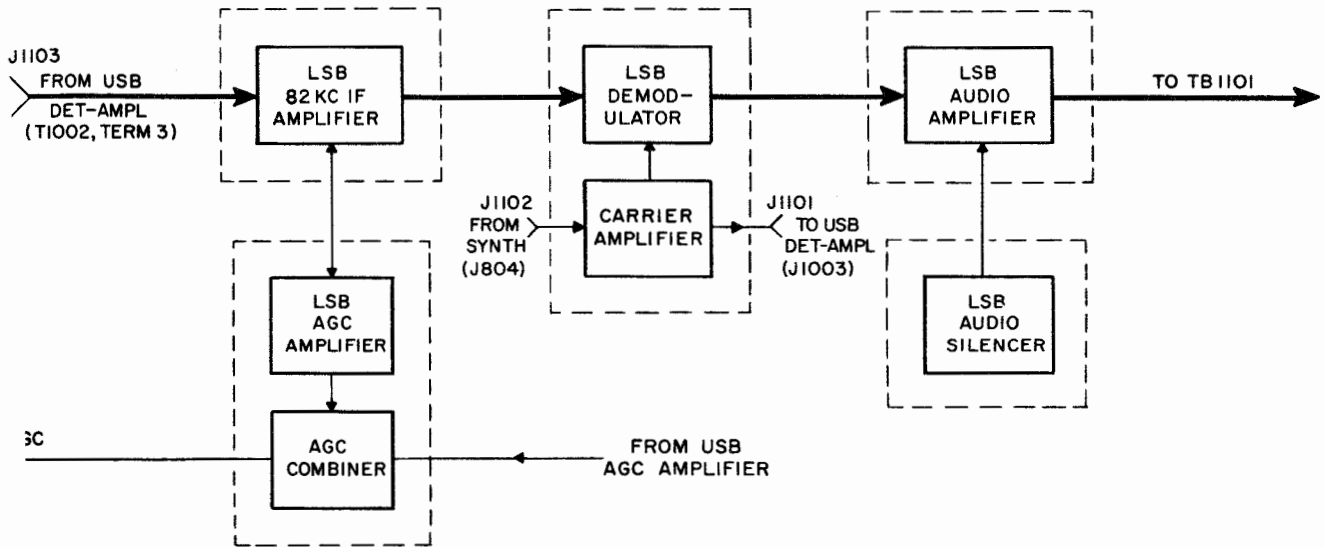

Figure 5-68. LSB Detector-Amplifier, Functional Block Diagram
a. DIAGRAMS.—Figure 5-68 is a functional block diagram of the LSB detector-amplifier assembly. For a complete schematic diagram, refer to figure 6-19. Functional schematic diagrams of the individual circuits in the assembly are as follows: